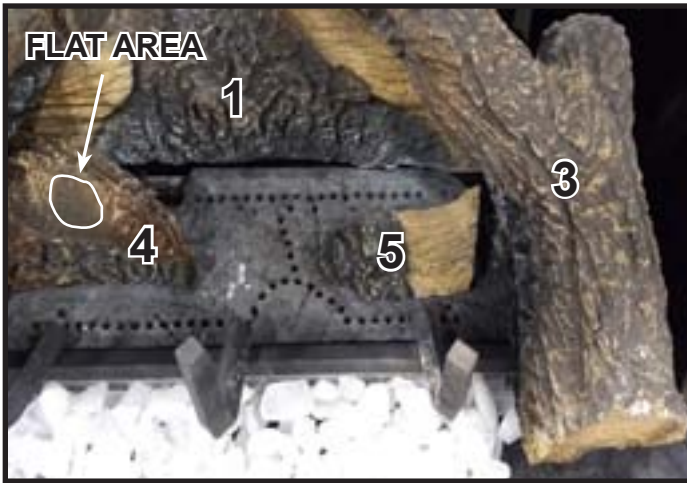
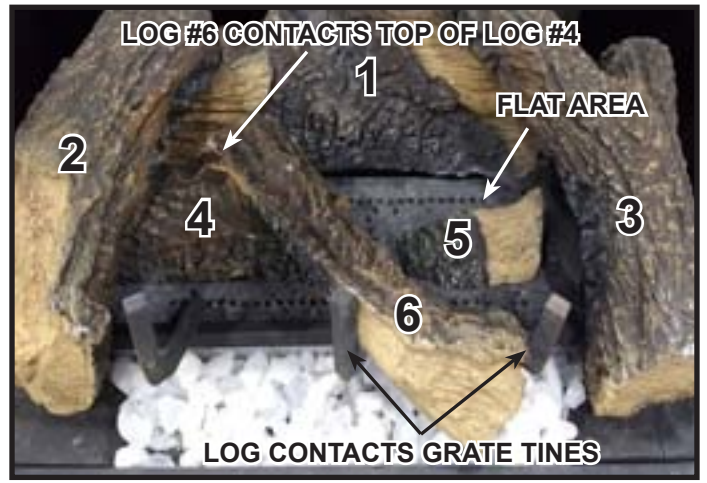

Figure 11
Figure 12
**Log #5 (SRV2164-705): NG/LP FUELS** Place Log #5 in the right log indentation on the burner top (see Figure 4). Ensure the log fits completely and securely in the recessed indentation (see Figure 11). Log #5 should be pulled to the left hand side of log indentation.
**Log #6 (SRV2164-706):** Mate the groove located on the lower end of Log #6 with the fourth grate tine (from left to right) as shown in Figure 12. Set the other end of Log #6 on the flat area located on top of Log #4 (see Figure 11). Log #6 will also rest against center grate tine. When properly installed, Log #6 will rest securely on all 3 contact points, not allowing movement or shifting.